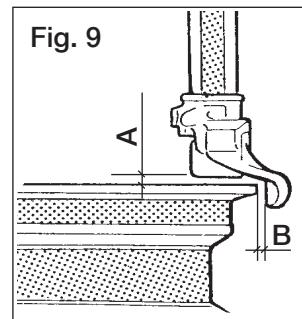

Fig. 11
- Assist a portion of the upper bead into the drop centre of the wheel by pushing down on the sidewall opposite the mount/demount head (Fig.11).
- Insert and position the bead lifting tool (17) on the mount/demount head (Fig.11).